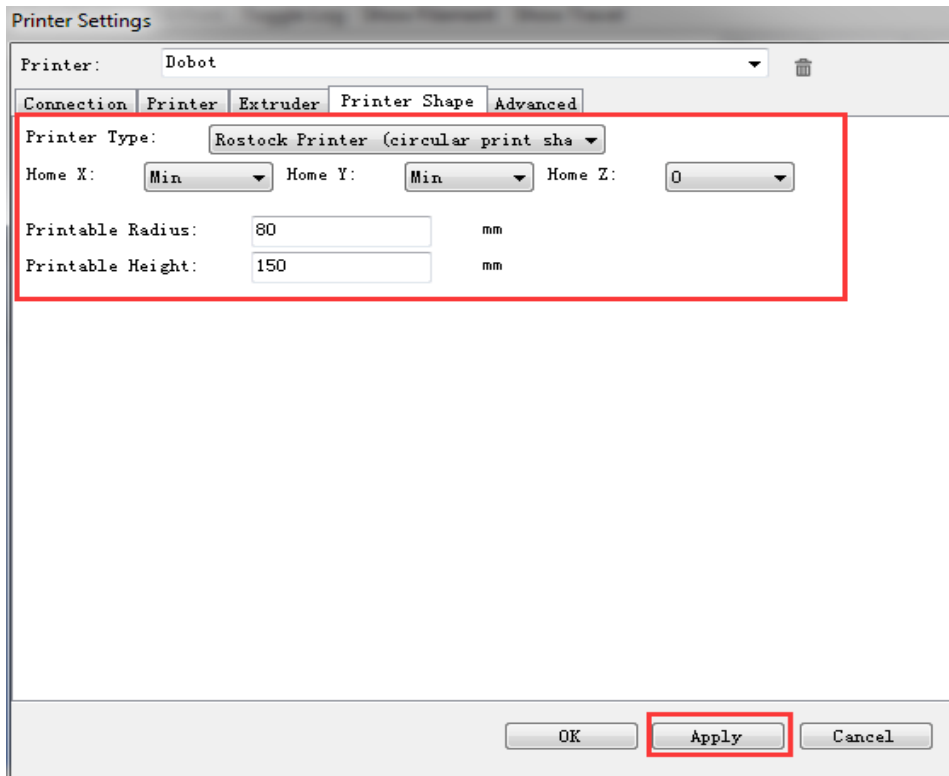

Figure 5.130 Printer shape settings
6. Set the corresponding parameters on the **Printer Shape** tab as shown in the red box of Figure 5.130, the other parameters are set by default. Then, Click **Apply**.